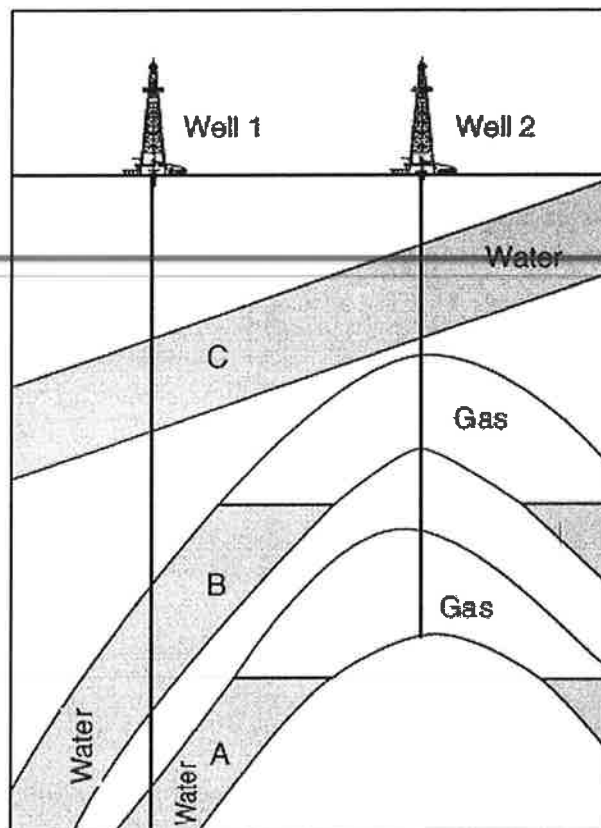

FIGURE Q3: Reservoir structure diagram.
3. a. The diagram given in **FIGURE Q3** shows the structure of a reservoir that involves Well 1 and Well 2. The wells have intersected three sand bodies of *A*, *B* and *C* that are occupied by gas or water.